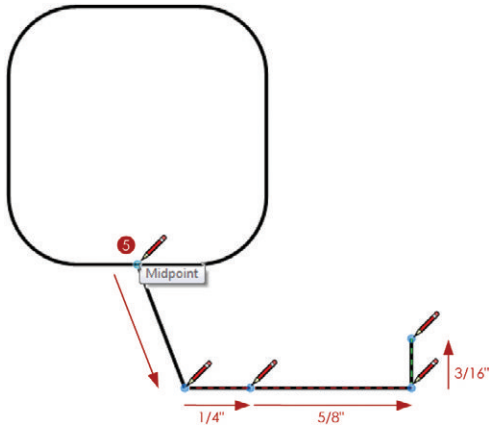

Figure 13.32 Draw the leader line.
5. Use the Line tool to draw a leader line as shown in Figure 13.32.